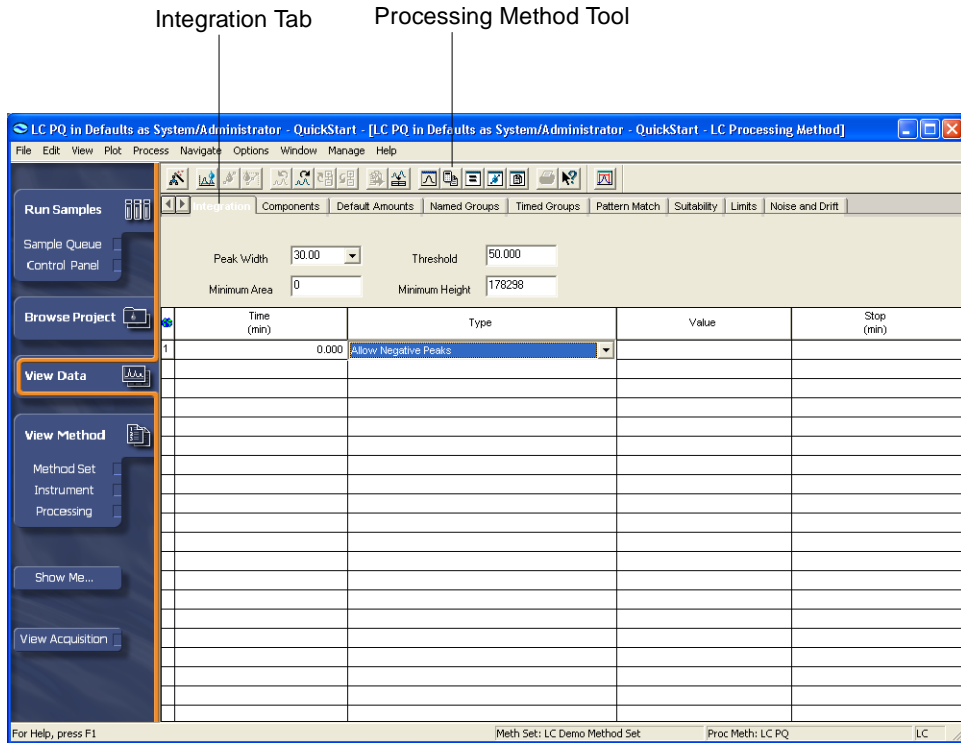

Figure 6-5 View Data–Processing Method Window, Integration Tab
- Click  (Processing Parameters) to access the Processing Method window (Figure 6-5). If necessary, click the **Integration** tab.